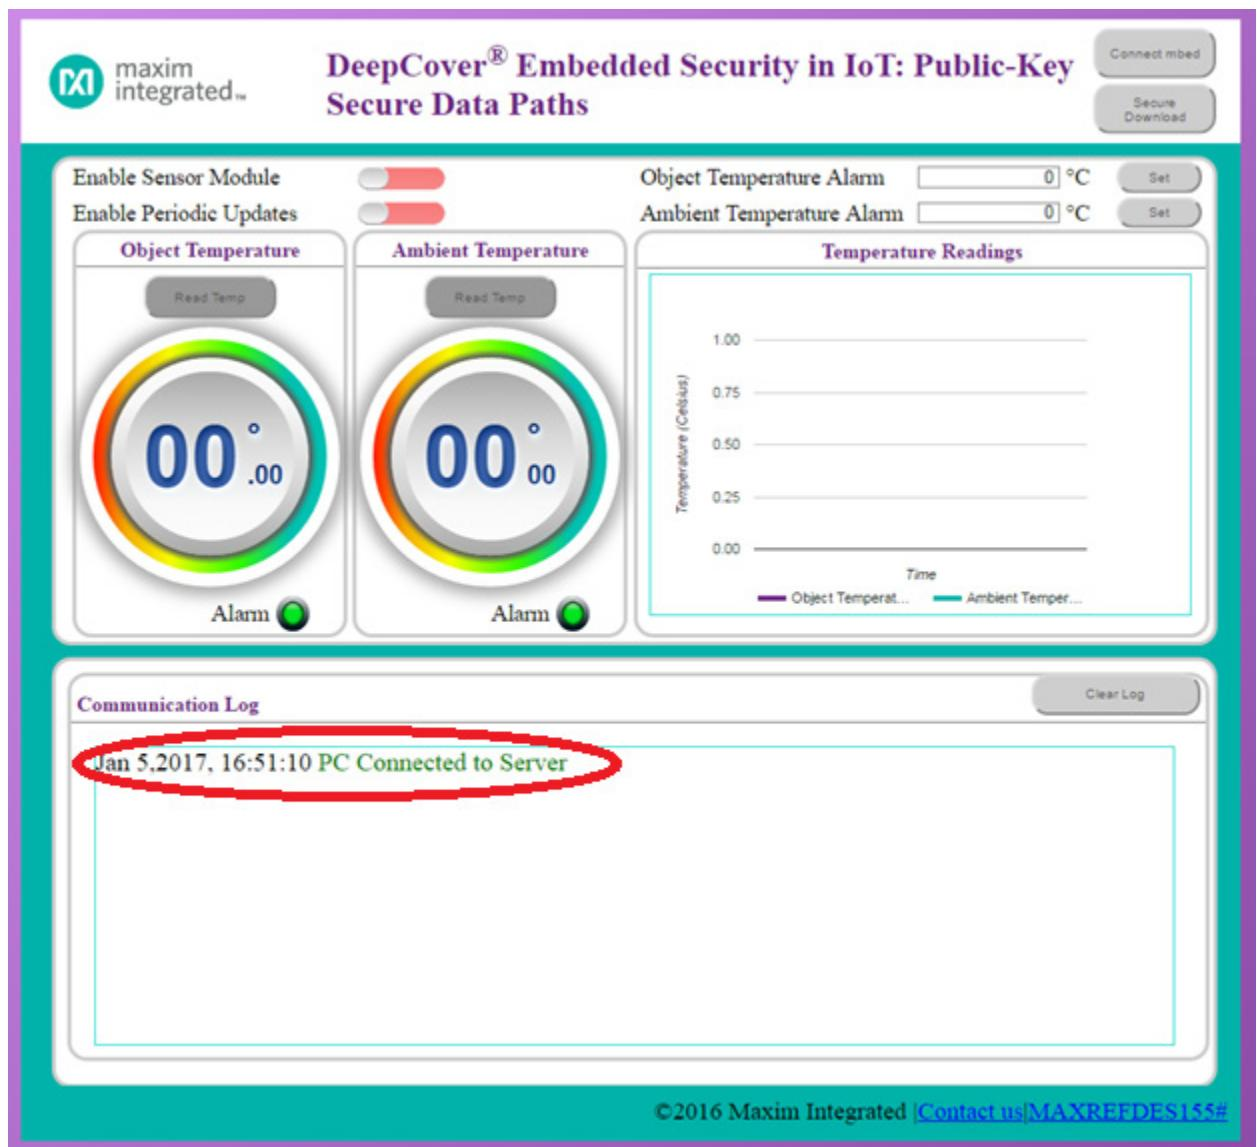

Figure 9. Verify the PC Connected to Server.
| Figure 9. Verify the PC Connected to Server..... | 9 |
6. Verify the PC is connected to the web server as shown in **Figure 9**.